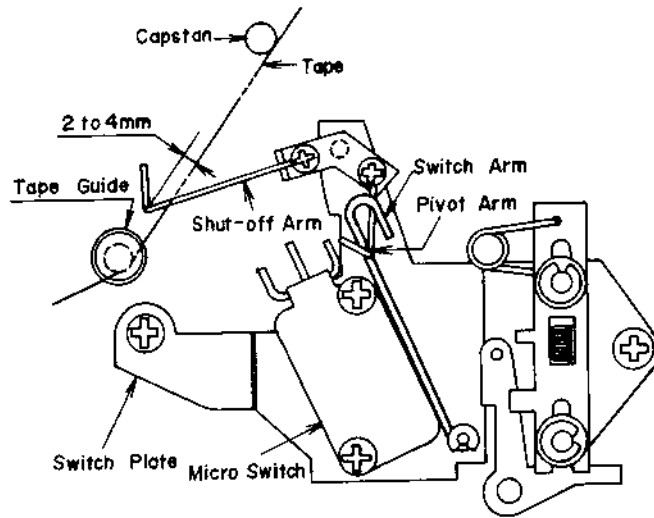

Fig. 1-15
(10) SHUT-OFF MECHANISM ADJUSTMENT
- a) Adjust pivot arm so that the position of the shut-off arm is 2 to 4 mm from the tape surface when the micro switch is depressed by the switch arm. (Refer to Fig. 1-15)